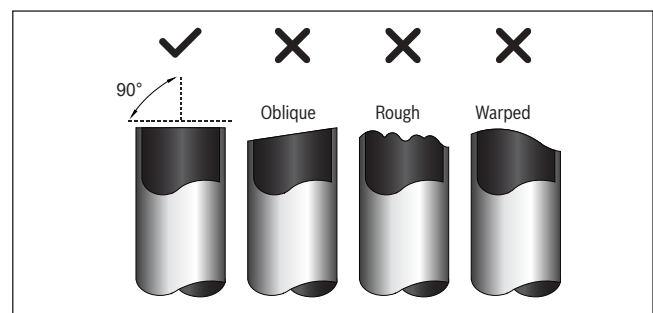

Fig. 14.
1. Ensure that the pipe is cut at a perfect 90° angle. Refer to Fig. 14 for examples of bad cuts